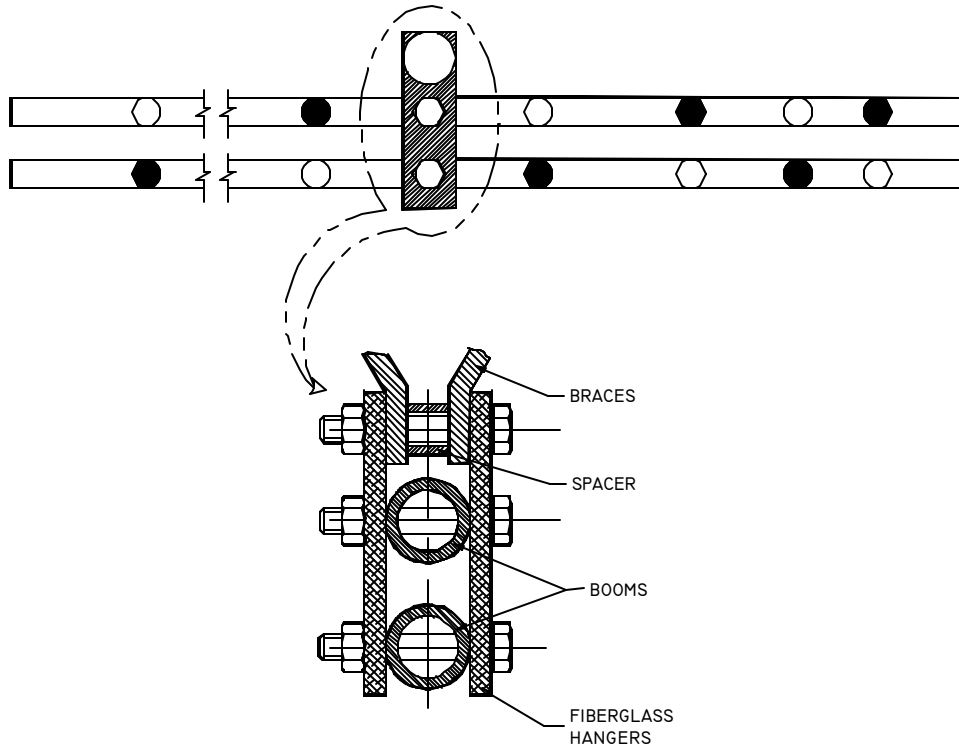
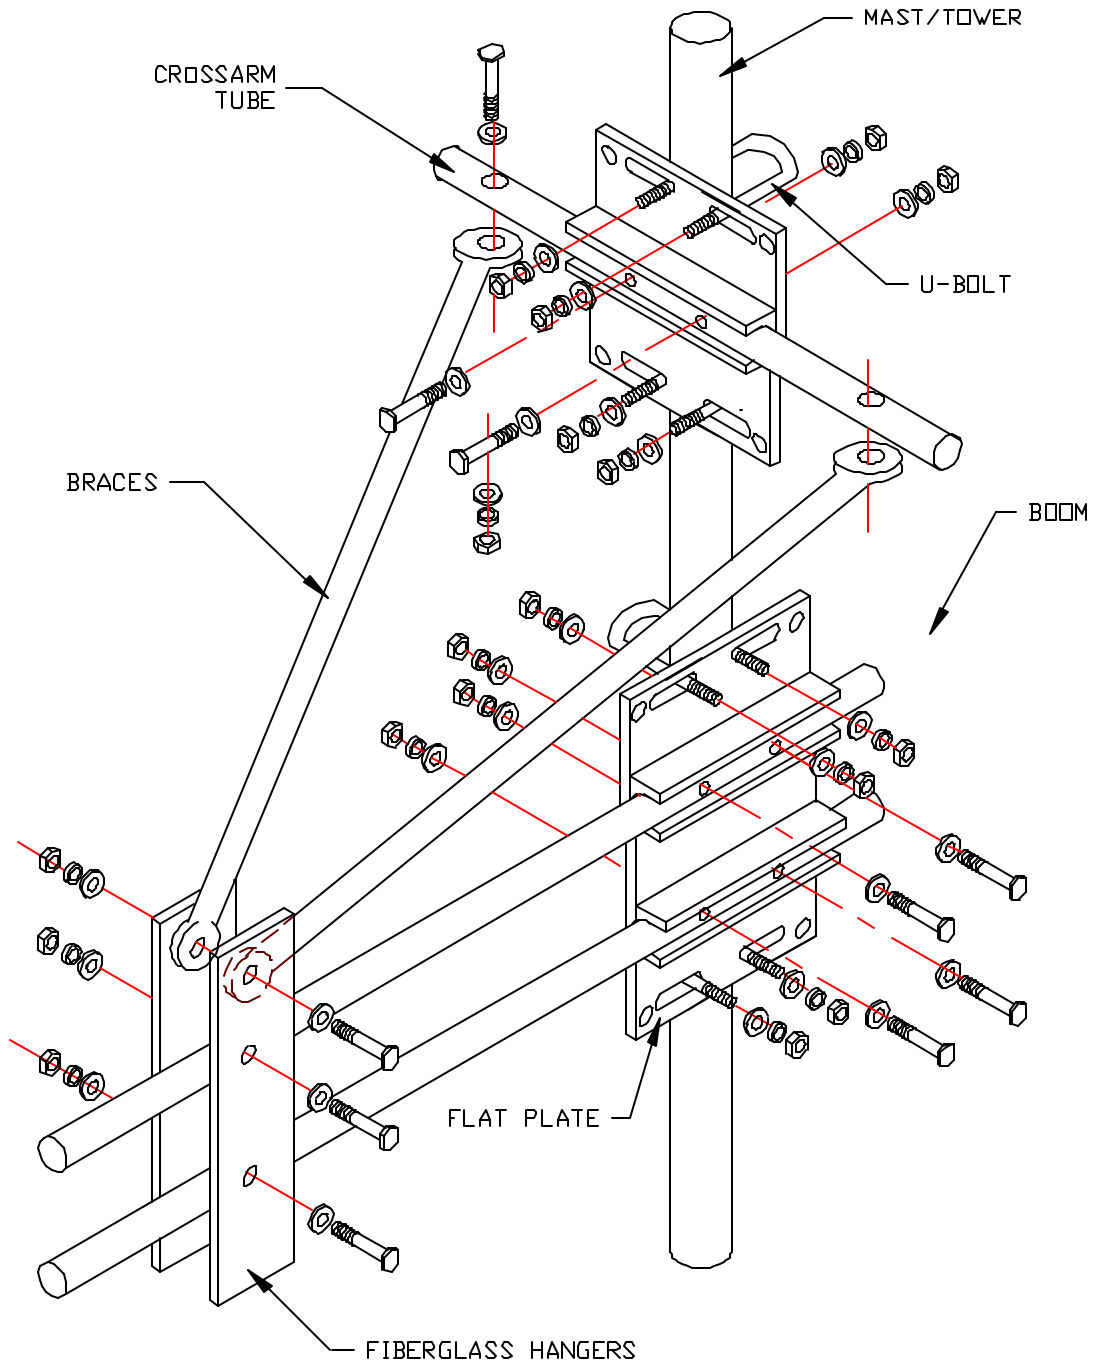

Figure 2
Figure 3
5. Secure the crossarm tube to the antenna support brace mounting bracket (see figure 3). Attach an antenna brace to the crossarm tube with the end bent down. Connect the other antenna brace in the same way. Attach both antenna braces to the fiberglass hangers as shown in figure 2, detail A. Attach the antenna crossarm tube bracket to the mast/tower leg using the supplied U-bolts. Also, connect the antenna boom support bracket to the antenna mast/ tower leg using the supplied U-bolts (see figure